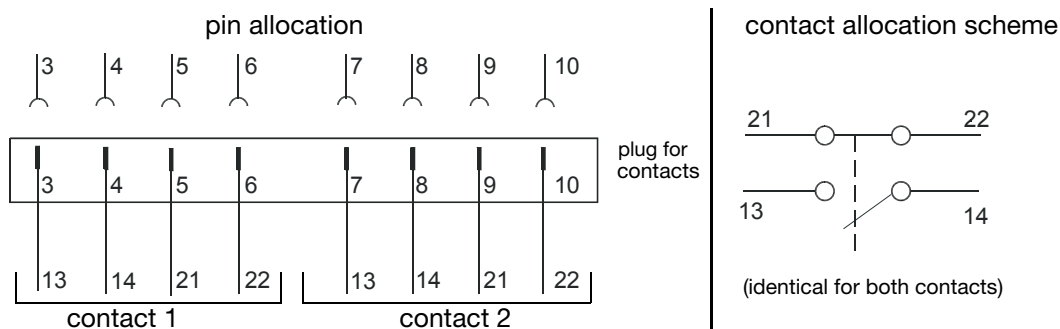

Fig. 8: Wiring scheme for mechanical contacts
- connect a measuring instrument to the appropriate plug pins of the 10-pole plug socket (see fig. 8 for pin allocation)